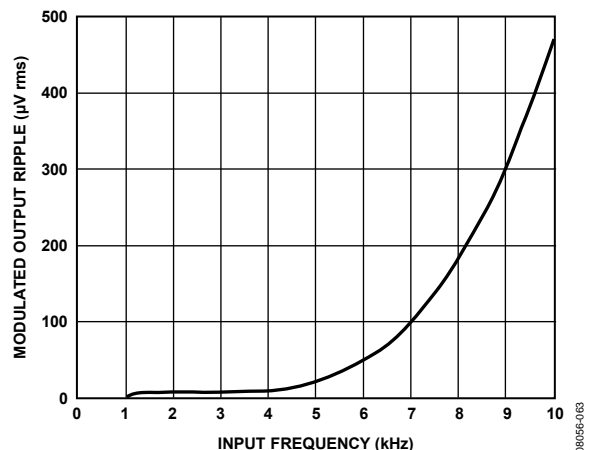

Figure 60. ADA4051-1/ADA4051-2 Modulated Output Ripple vs. Input Frequency
The remaining voltage ripple originates from two sources. The first type of ripple is due to the residual ripple associated with the initial offset of the Gm1. It is proportional to the magnitude of the initial offset and creates a spectrum at the chopping frequency (f_{CHOP}). When the amplifier is configured as a unity-gain buffer, this ripple has a typical value of 4.9 $\mu\text{V rms}$ and a maximum of 34.7 $\mu\text{V rms}$. The second type of ripple is due to the intermodulation between the high frequency input signal and the chopping frequency. This ripple depends on the input frequency (f_{IN}) and creates a spectrum at frequencies equal to the difference between the chopping frequency and the input frequency ($f_{CHOP} - f_{IN}$), as well as at frequencies equal to the summation of the chopping frequency and the input frequency ($f_{CHOP} + f_{IN}$). The magnitude of the ripple for different input frequencies is shown in Figure 60.
- No affect on the desired input signal as long as its frequency is much lower than the chopping frequency shown in Figure 60